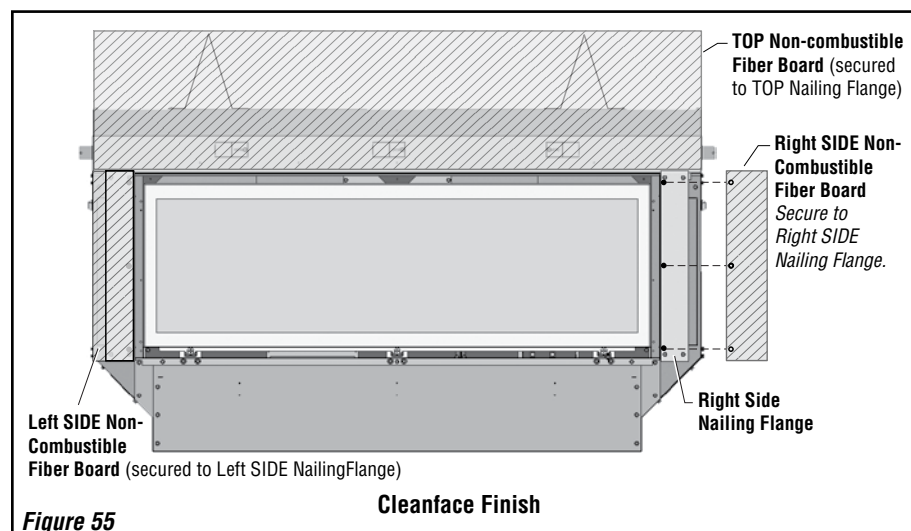

Figure 55
2. **LEFT/RIGHT SIDE NAILING FLANGES:** Make sure the LEFT and RIGHT SIDE Nailing Flanges are **installed** (see **Figure 55**).
4. **NON-COMBUSTIBLE FIBER BOARD:** See **Figures 55 (this page) and 56 (next page)**. Attach the longer piece of fiber board to the TOP Nailing Flange, and secure using field-supplied screws. Attach the two shorter pieces of fiber board VERTICALLY to the LEFT and RIGHT SIDE Nailing Flanges using field-supplied screws through the counter-sunk holes in the fiber board.